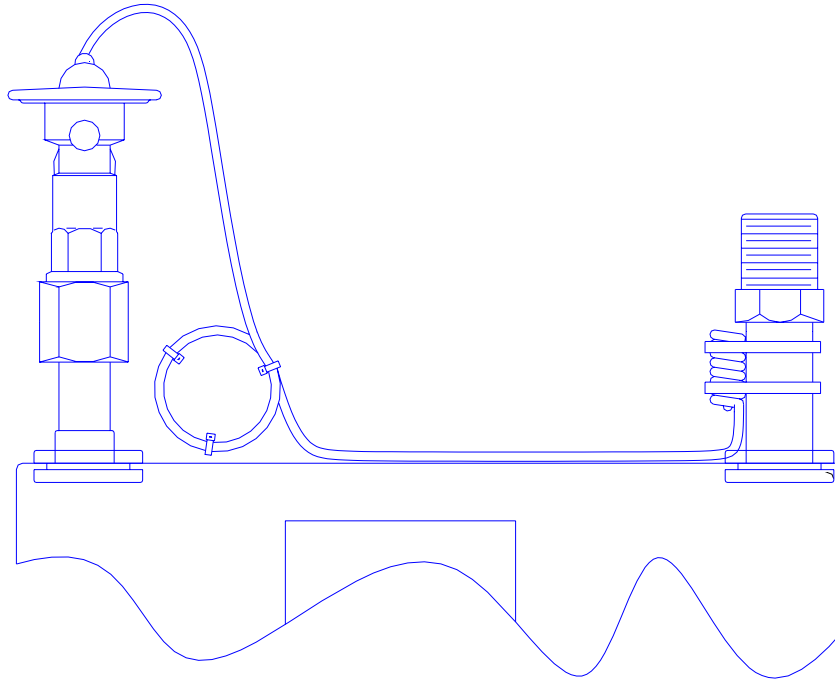

Figure 3
7. Install the thermal sense bulb such that it makes contact with the suction tube along its entire length with two or more cable ties as shown in Figure 3.